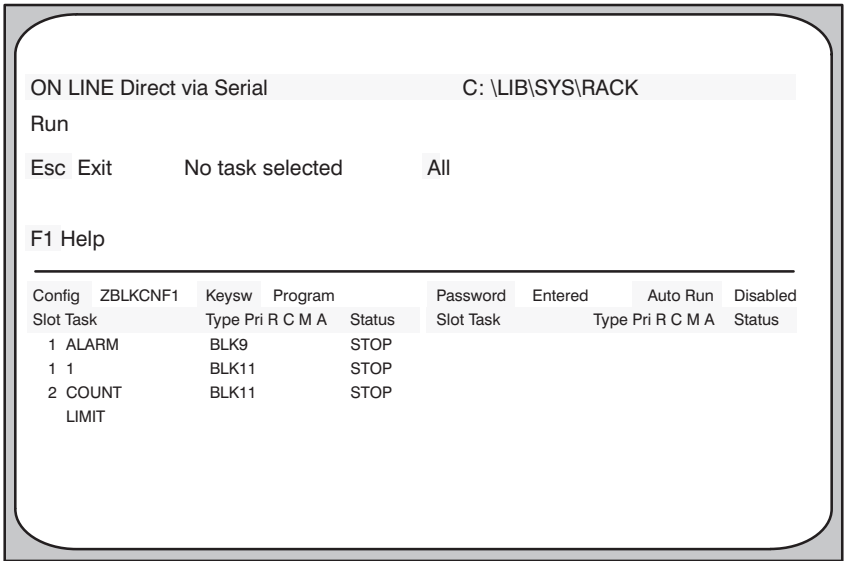

Figure 15.1 - Run All Display
1. Do not select an individual task while at the Online menu. Instead, type "R" from the Online menu with no task selected. This results in the display shown in figure 15.1.